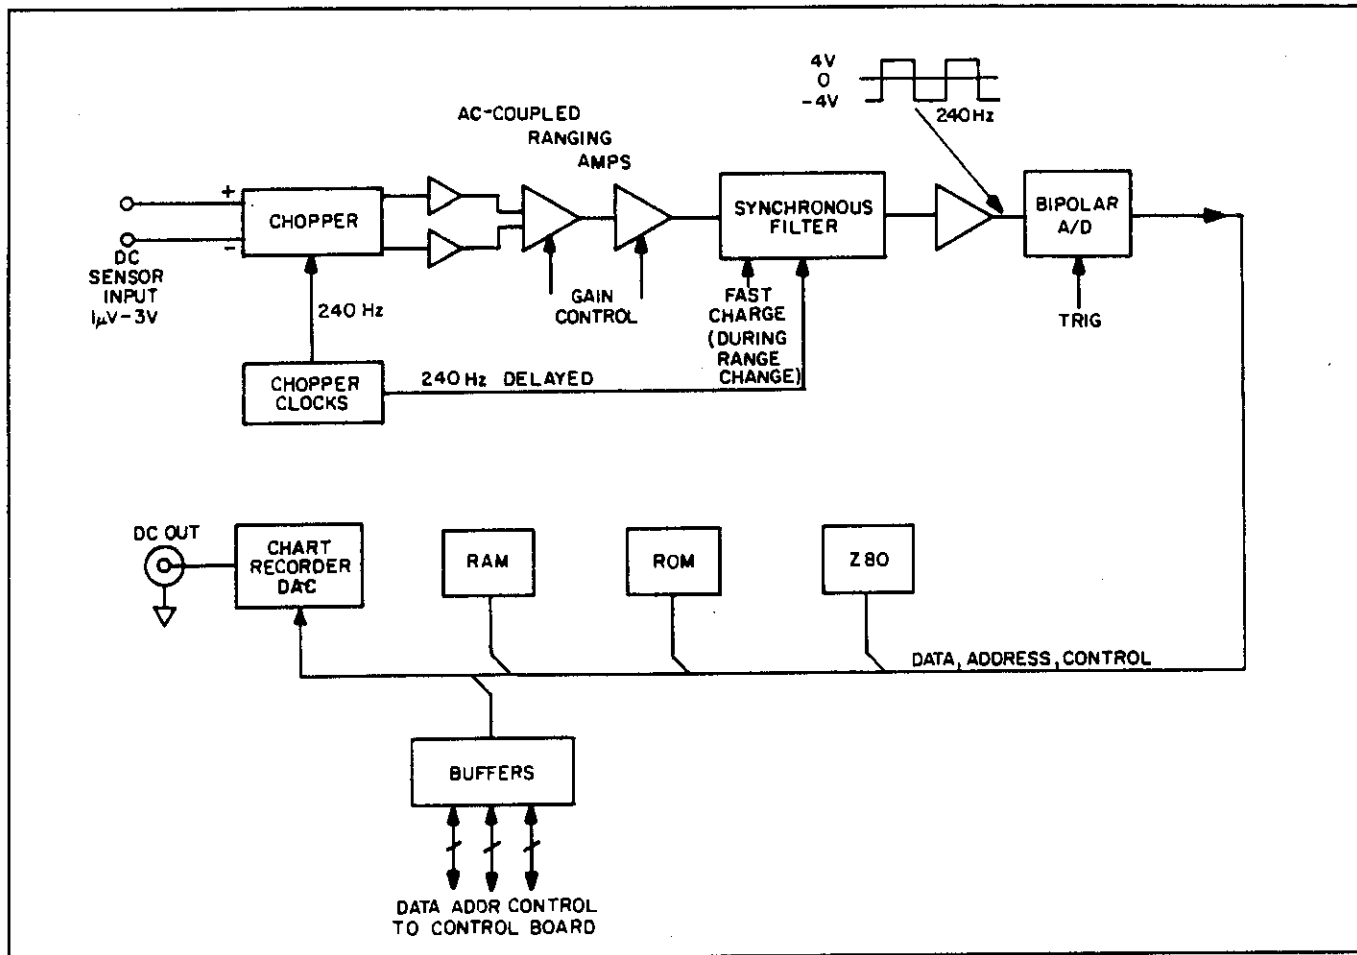

Figure 5-2. Input Board Block Diagram
1. **General.** Refer to Figure 5-2. The RF power to be measured is applied to a sensor which converts RF power to a proportional DC voltage. The magnitude of the sensor's DC voltage output can vary from microvolts to volts, as a function of the power level to the sensor. Since the analog-to-digital conversion process has a relatively small dynamic range of 10:1, a variable gain instrumentation amplifier is used to scale the voltage applied to converter. To reduce the undesirable effects of the amplification process (i.e., drift, DC offset, and 1/f noise), the DC voltage from the sensor first converted to an AC square wave by the chopper. The DC voltage from the sensor first converted to an AC square wave by the chopper.